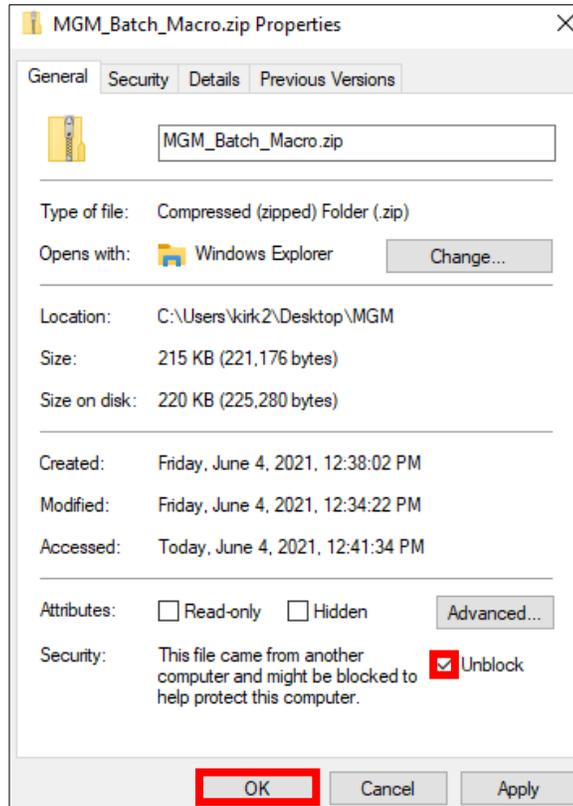

Figure 2. Unblock “MGM21\_Batch\_Macro\_v1\_6.zip”.
4. Right-click on “MGM21\_Batch\_Macro\_v1\_6.zip”, and select “Properties”. In the new dialog (Figure 2), go to the “General” tab. If visible, check “Unblock” in the lower-right corner. Then, click “OK” (Figure 2). The Batch Macro will not run if “MGM21\_Batch\_Macro\_v1\_6.zip” is “Blocked” by Windows.